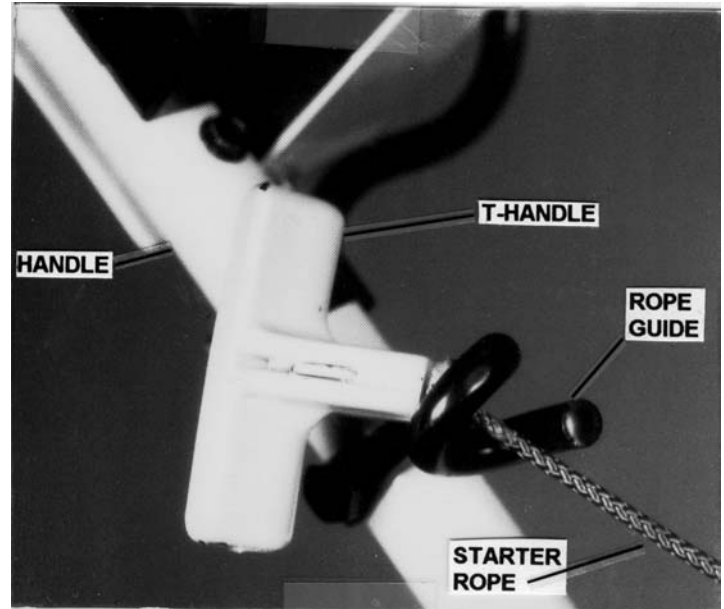

FIGURE 3
9. Pull the bail down to the handle, grasp the recoil T-handle located at the engine recoil, and pull the rope back and route it thru the rope guide located at the right hand side of the handle. See Figure 3.